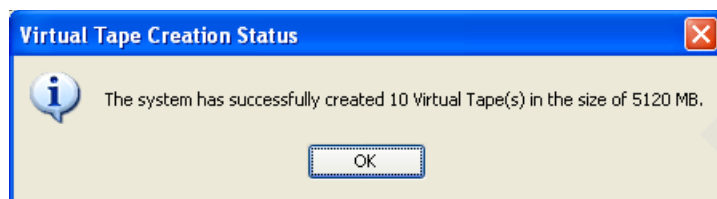

Figure 6-84 Advanced Tape Creation completion
8. When the virtual tapes are added, the completion box is displayed (Figure 6-84). Click **OK** to exit.